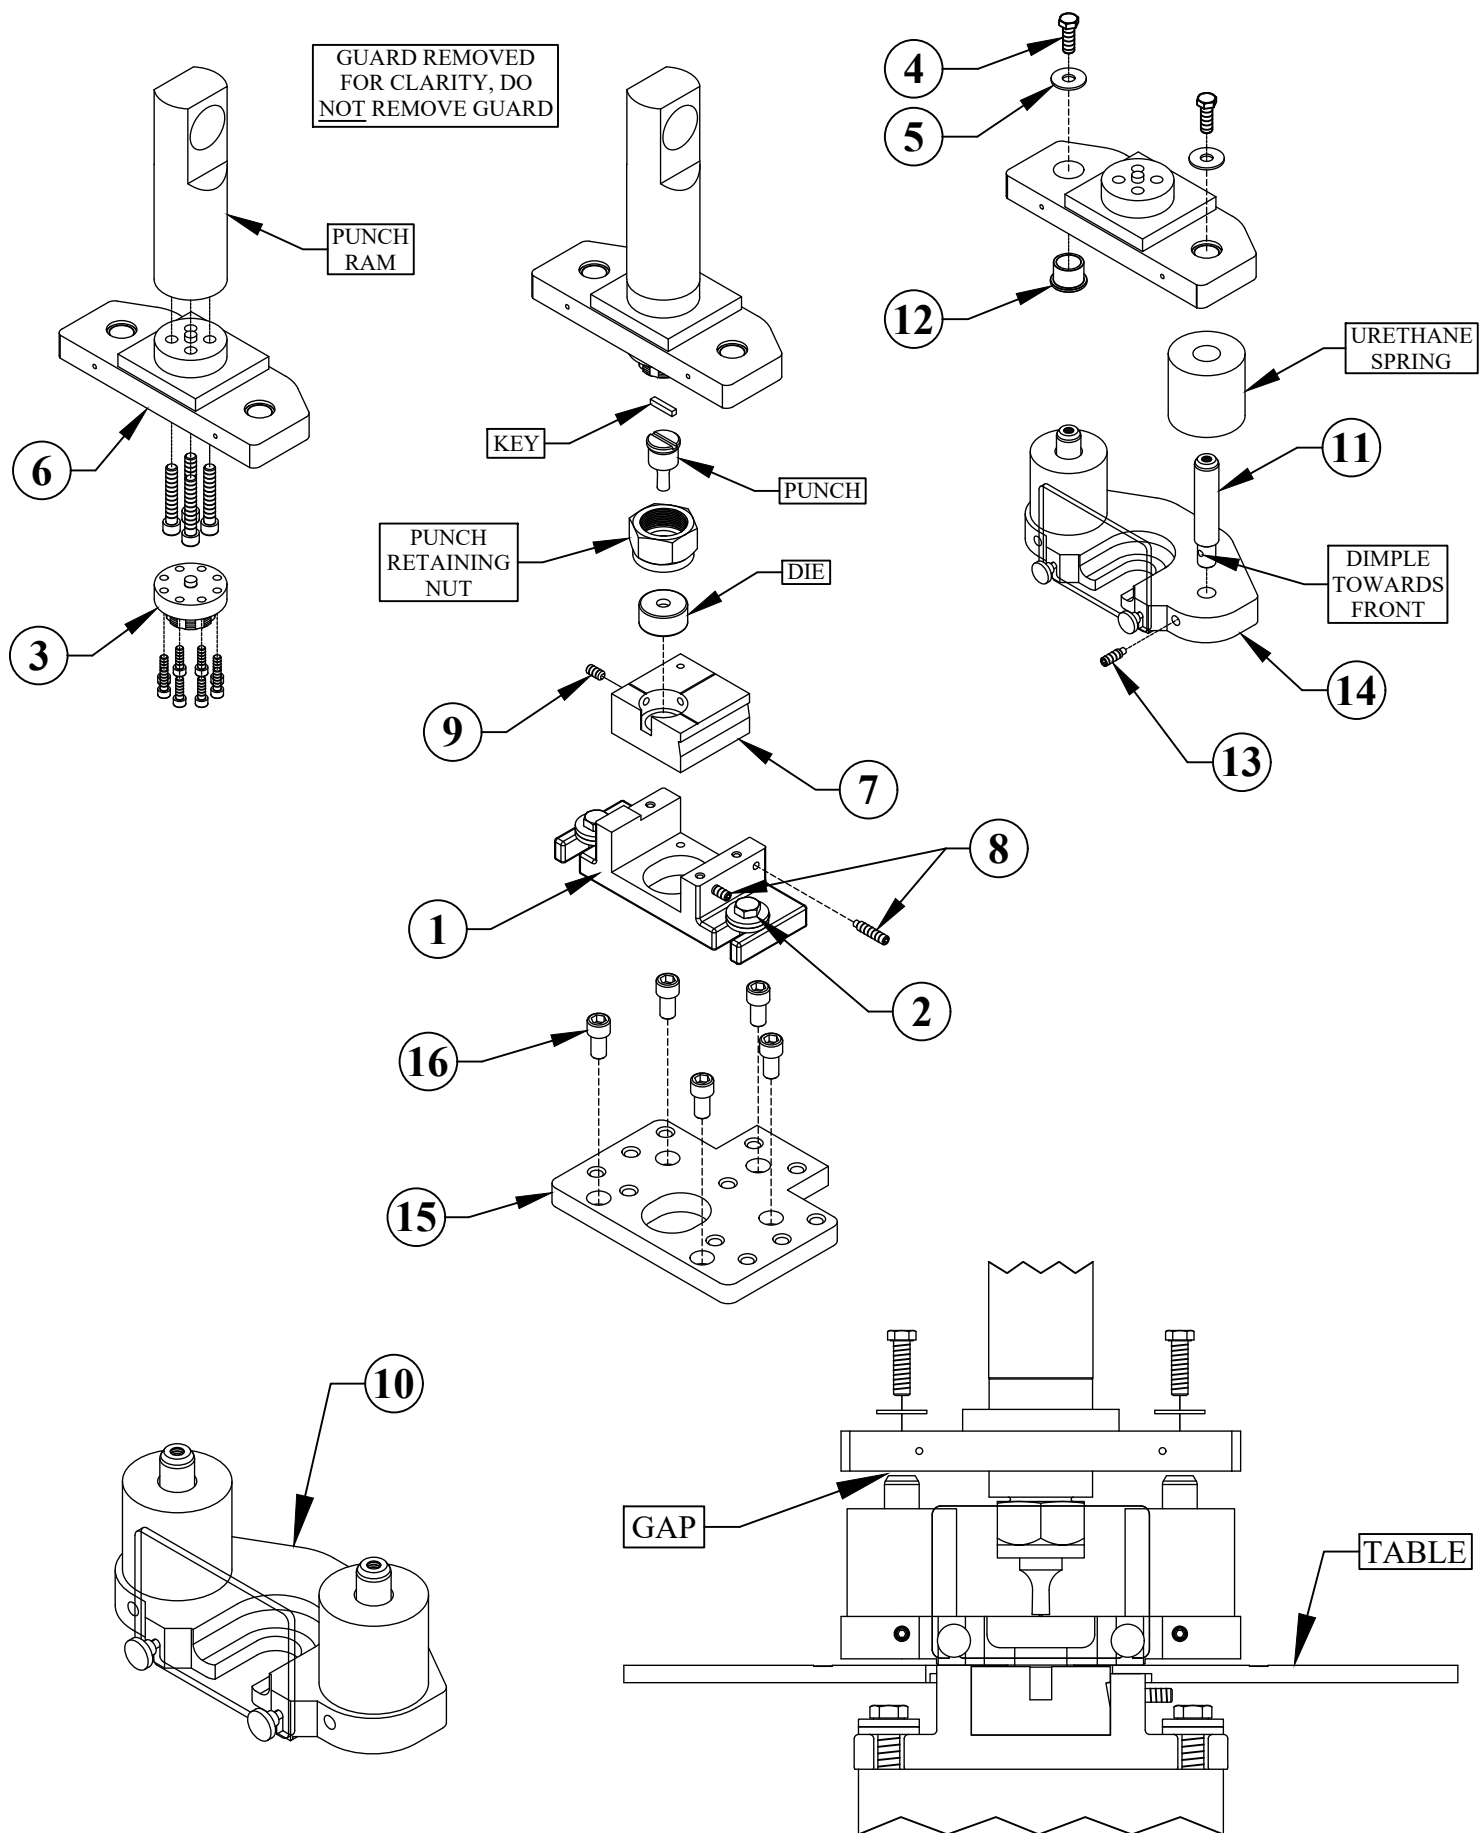

FIGURE 27
20. Power the machine on and place the selector switch in the JOG position. Carefully inch the punch ram down until there is just enough space to slide the lower assembly (10) underneath the stripper mounting plate and power off the machine. (See "Gap" IN FIGURE 27).
SEE FIGURE 27
If the unit is constantly over stroked or over a period of time, it may be necessary to renew the urethane springs. REFER TO FIGURE 27. The springs should be checked periodically. (A sure sign of over stroking is cracking or splitting of the springs.)
4. If the posts have become loose in the stripper plate, remove the appropriate set screws, (or if the set screws have already been removed), apply a thread locking solution such as Blue Loctite® and reinsert the set screws, making sure they are inserted into the dimples on the bottom of the posts (SEE "DIMPLE TOWARDS FRONT" IN FIGURE 27).